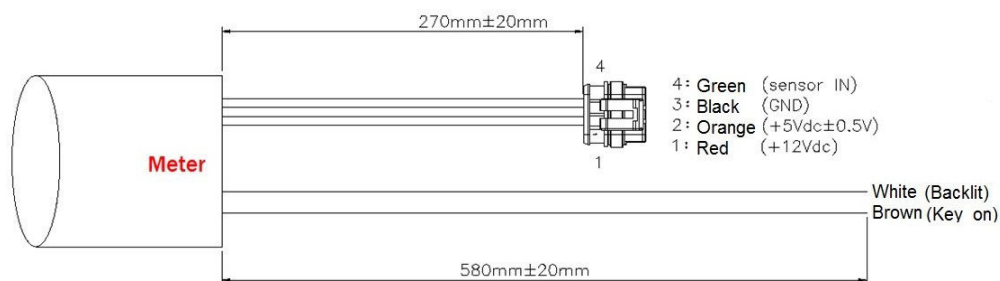

Fig. 18
4. Gauge lighting: refer to a wiring diagram for your vehicle and connect the white gauge wire to the output of the dash light dimmer knob, or directly to the headlight switch if desired (see **figure 18**).
5. Key on wiring: Connect the brown gauge wire (see **figure 18**) to a permanent 12 V power. This power line drives the pointer return to zero once the power shuts off to avoid pointer stopping in the middle of the dial weep when the power shuts off unexpectedly.